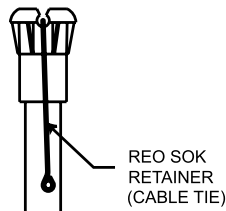

FIG. 7
13. Place ReoSok® cable tie retainer (Fig. 7) over ReoSok® (Optional).